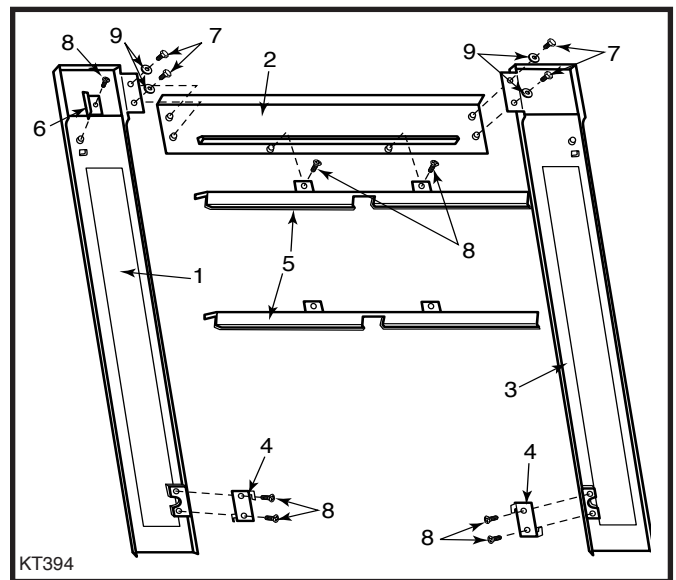
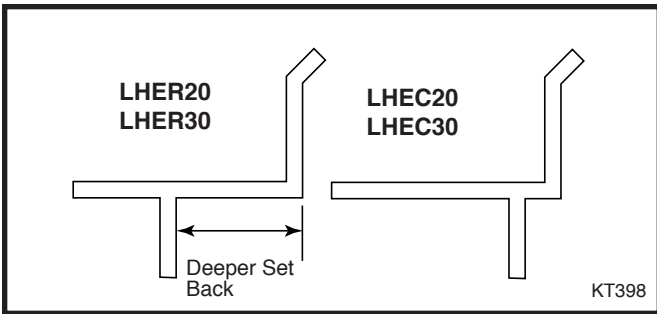

Fig. 2 Back view of surround assembly.
Fig. 3 Determine which bracket is correct for the installation.
Compare contents of carton in Figure 2 with actual parts received. If any parts are missing, or damaged, contact your dealer before starting installation.
Lay out the parts, face down, on a flat padded surface. (Fig. 2)
2. Attach the mantel to the columns with four (4) 1/4"-20 hex bolts and washers.
3. Only one upper bracket is used per surround. Determine which bracket is correct for the insert and discard the other. (Fig. 3) Attach the upper bracket to the mantel with two (2) phillips pan head bolts 3/8" long. (Fig. 2)
4. Attach the two (2) lower brackets to the bottoms of the columns with two (2) 3/8" phillips pan head bolts each. (Fig. 2) **NOTE:** When positioning the right column lower bracket, make sure one of the hooked flanges is in the upper right hand corner and facing towards you. The other hooked flange will be in the opposite lower corner and facing away from you. (Fig. 2)